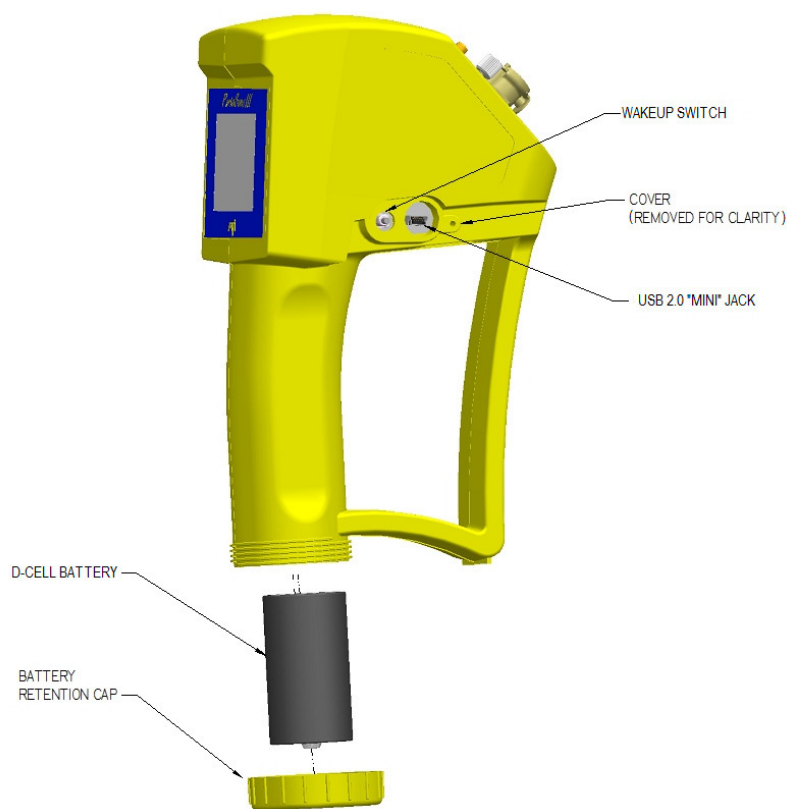

Figure 1: PortaSens III, left side view.
When you receive your D16 Portable Gas Detector (Fig: 1), open the carrying case and inspect the contents to be sure that no shipping damage has occurred. The following items should be included inside the case:
1. Insert 'fully charged' battery into sleeve of the D16 as shown (Fig 1).